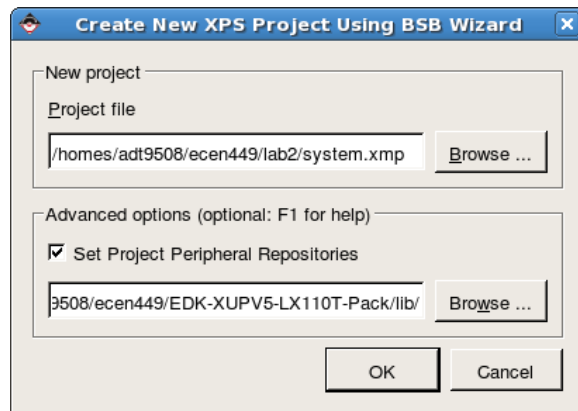

Figure 3: Project file and Project Peripheral Repositories
- (d) In the next window (Figure 3), define the 'Project file' as "system.xmp" within your project directory created in step 1(a).